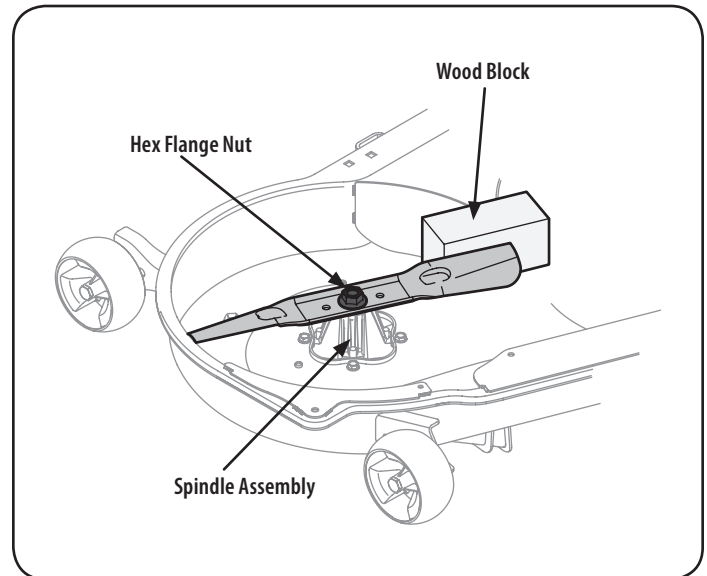

Figure 38
2. Use a $1\frac{5}{16}$ " wrench to hold the hex nut on top of the spindle assembly when loosening the hex nut securing the blade. A block of wood may be placed between the deck housing and the cutting edge of the blade to help in breaking loose the hex nut securing the blade. See Figure 38.